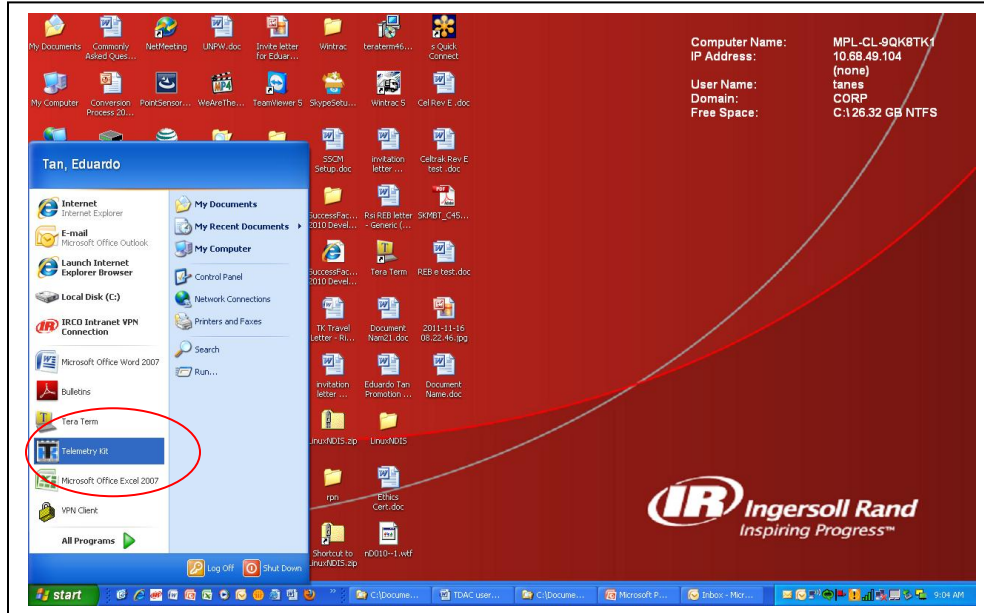

Figure 2
d. Launch TDAC application in your PC. See Figure 2.